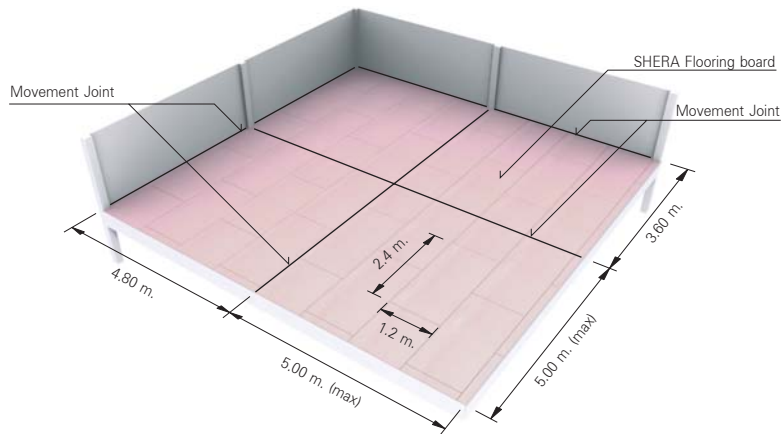

Figure 18 : Movement joint (example 1)
- Movement joint must also be provided where floor length or width exceed 5.0 meter. Joints should be located at around the center of the floor. Please see figure 18 for more details.